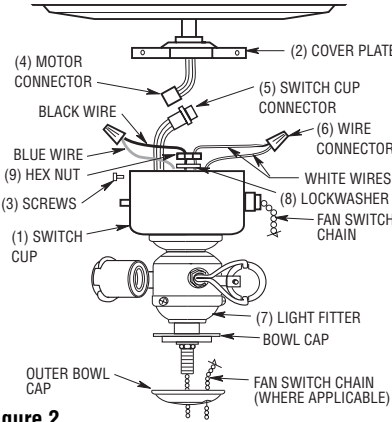

Figure 2
6. Insert the black and white wires from the light fitter(7) through the center hole in the switch cup (Figure 2) and thread the switch cup onto the light fitter. Hold wires taut while installing switch cup to prevent the wires from twisting.
7. Insert the black and white wires through the lockwasher(8) and hex nut(9) supplied. Firmly tighten the hex nut to secure the light kit fitter to the switch cup.
8. Connect the white wire from the switch cup to the white wire of the light fitter (Figure 2). Connect the blue wire from the switch cup to the black wire of the light fitter. Use the wire connectors provided with the light kit to make the electrical connections (Figures 2 and 3).
9. Carefully tuck all wires and splices into the switch cup(1). (Figure 2.)
10. Connect the motor connector(4) to the switch cup connector(5).
11. Position the switch cup(1) and fitter assembly(7) on the cover plate(2) and install the three screws(3) that were previously removed in Step 2 and tighten securely.